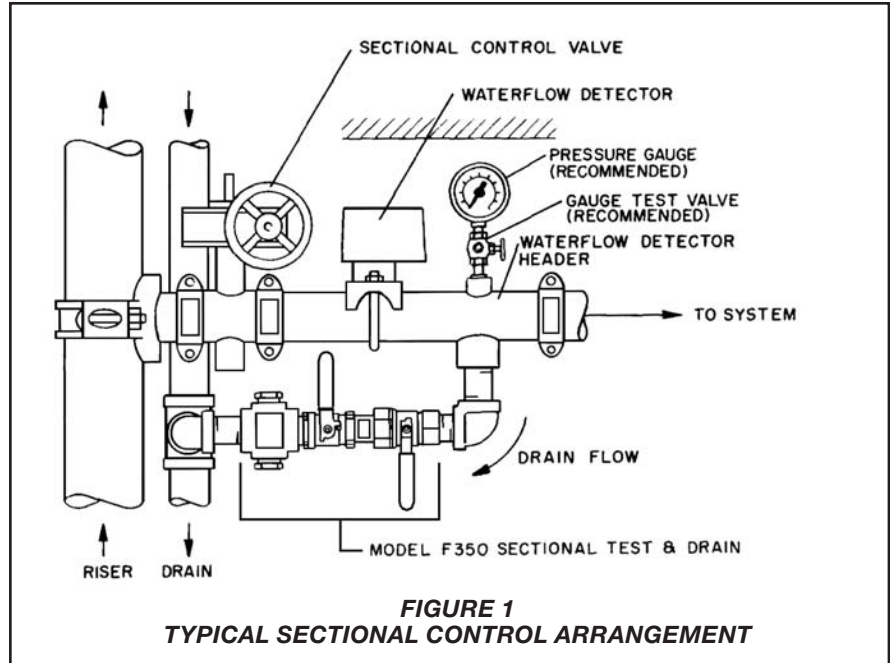

FIGURE 1
Figure 1 illustrates a typical sectional control arrangement that is utilized for the flow control, inspection, testing, and draining of feed mains to sections of wet pipe automatic sprinkler systems. A typical application is in a multi-story building where waterflow alarm devices are required on each floor at each riser.
Step 2. Position the Shut-off Valve handle in the "ON" position. Water is then permitted to flow through the test orifice to simulate the flow from an individual 5.6K (80K) orifice sprinkler located downstream of the water-flow detector (Ref. Figure 1).